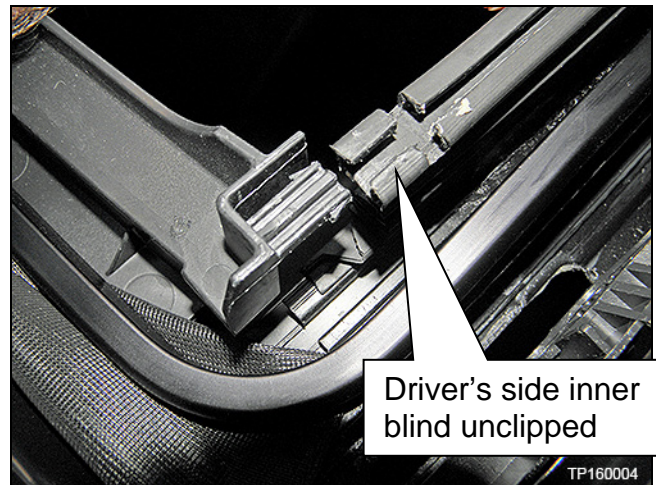

Figure 14
- Figure 14 shows inner blind unclipped.